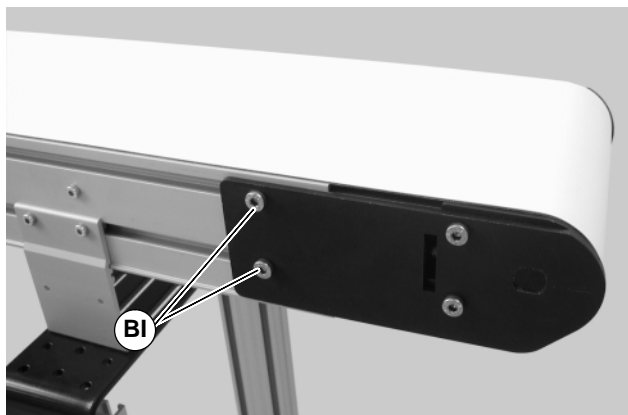

Figure 36
- On the side of conveyor which the belt is tracking towards, loosen the head plate fastening screws (BI of Figure 36).
3. Re-tighten the head plate fastening screws (BI of Figure 36) with a 5 mm hex-key wrench to 146 in-lb (16.5 Nm).